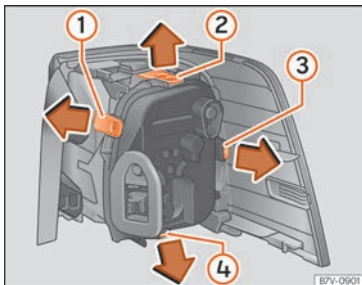

Fig. 71 Tail light unit in the bodywork: removing the bulb holder.
- To release the bulb holder, press on the attachment tabs »» Fig. 71 ① to ④ in the direction of the arrow.